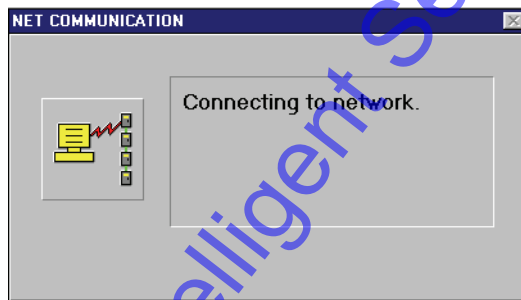

Figure 2-37: Connecting to the Network
4. Click on the  button. The Net Communication window appears as communication is being established (see Figure 2-37).